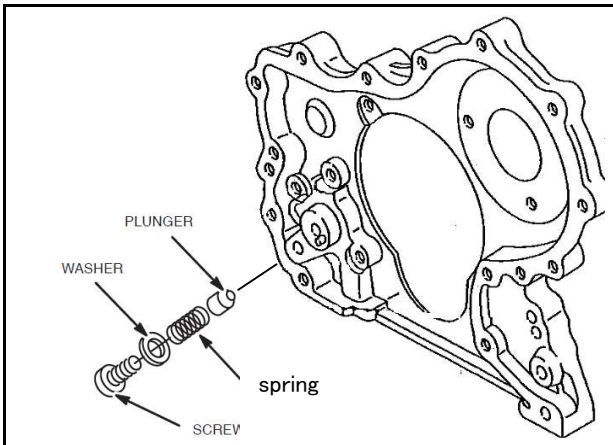

Fig. 4 - Checking Pressure Relief Valve
3. Remove and check pressure relief valve assembly, Fig. 4.